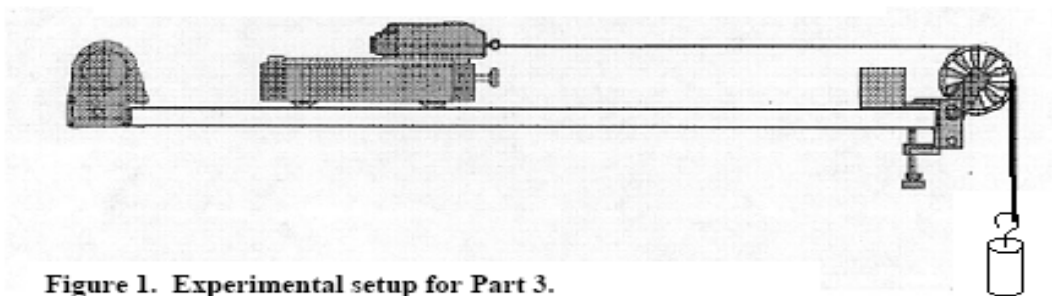

Figure 1. Experimental setup for Part 3.
In **PART 1** of this lab you will use the dynamics carts moving on a nearly frictionless track to check the validity of Newton's 2nd Law. The experimental setup for this **PART** is shown in figure 1 below. The **Force Sensor** attached to the cart will measure the force with which the cart is pulled along the track (which is the net force acting on the cart since the other two forces acting on the cart: gravity and the normal force balance each other), while the motion sensor will allow us to measure the cart's acceleration.
12. Place the cart about 15 cm in front of the **Motion Sensor** and hold it there. Attach the string's loop to the hook of the **Force Sensor**. Have your partner place the string over the pulley and attach a 200 g *mass* to the other end of the string as shown in figure 1. **CAUTION: the hanging mass should hang no more than 20 cm above the floor. If needed lengthen the string. Place the bin with the rubber foam on the floor under the hanging mass. Be careful that the weights won't hurt anyone's toes on the way down and as they strike the floor.**